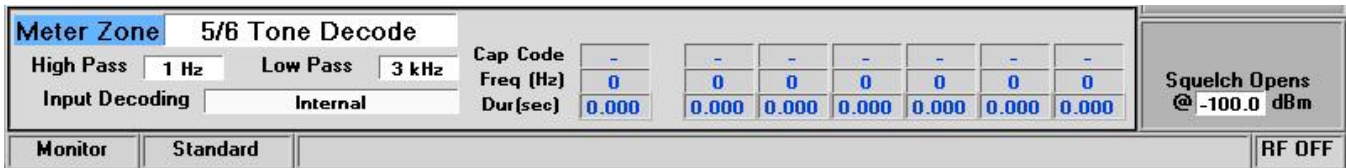

Figure 3.2.6.4-5 5/6-Tone Decode screen
*General Sequence* selection decodes the individual frequency and time duration for each of up to 20 tones in a tone sequence. This function overwrites the entire Display Zone section of the main screen and provides a detailed display of data (Figure 3.2.6.4-6). A vertical submenu provides adjustment of the Low and High Pass filters to reduce noise for more accurate measurements, an Input Decoding selection key to select internal or external decoding, a Decode key with start and stop settings to control the decode function, and a selection window to choose the SelCall standard (or none) used for decoding.